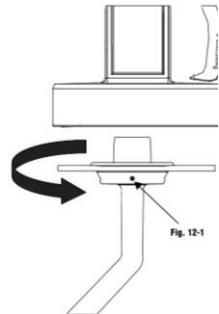

Fig. 12
1. Screw off the container and the suction tube with container seal (Fig. 12).